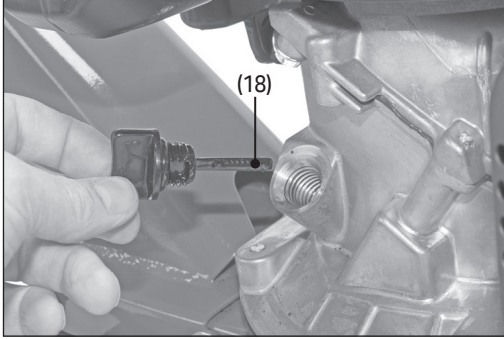

Fig. 9
1. Unscrew the oil dipstick (18) and remove it from the reservoir (Fig. 9).